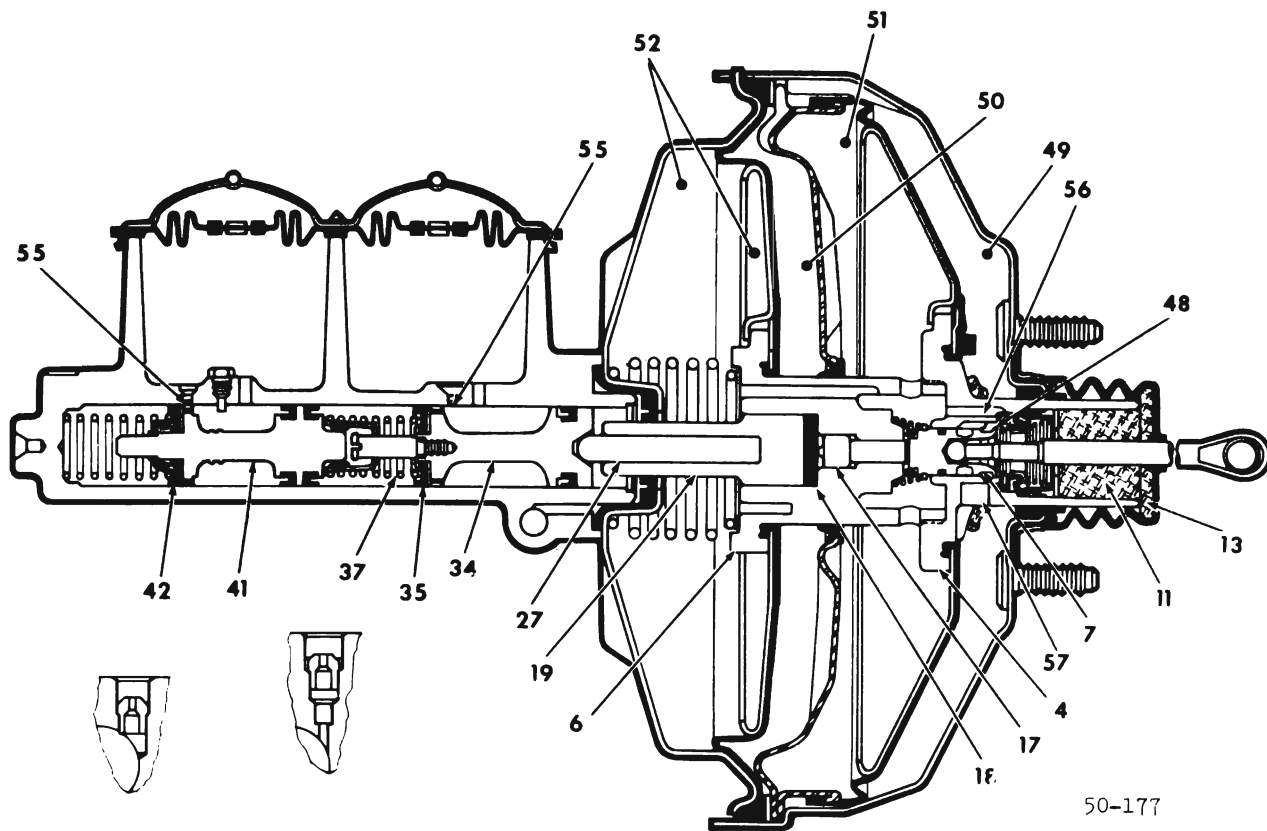

Figure 50-53 Applying Position
As the brake pedal is depressed, the air valve push rod assembly (7) moves in the direction of the master cylinder. The floating control valve (8), being loaded by the spring immediately behind it, follows the air valve until it contacts and seats on the primary power piston at point (47). With the floating control valve seated on the primary power piston (4) at point (47), passage way (56) is closed and the vacuum source is shut off from the areas (49 and 50) behind both power pistons. As the air valve continues to move in the direction of the master cylinder it unseats from the floating control valve. See Figure 50-53.